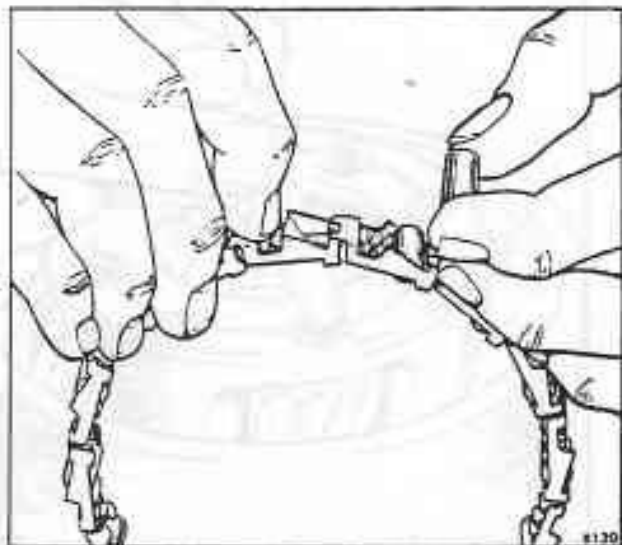

Fig. T19-19 Fitting a roller to the roller clutch cage
22. Fit the rollers that may have come out of the roller clutch cage, by compressing the energizing spring with the forefinger and inserting the roller from the outside (see fig. T19-19).